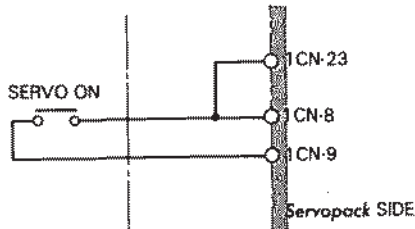

Fig. 6.6 Sequential Operation of Servo ON and Clear Signals
- When the clear signal is used with the Servo ON signal, connect as shown in Fig. 6.6. For clear signal, set the voltage level to +12V, and reverse the logic and clear by H.